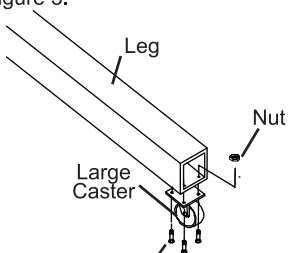

Figure 3
3. To attach one Large Caster (17) to the end of each Leg, align the four mounting holes in each Large Caster with the four mounting holes on the underside of each Leg. Secure in place using four Small Caster Bolts (18) and Nuts (16). See Figure 3.